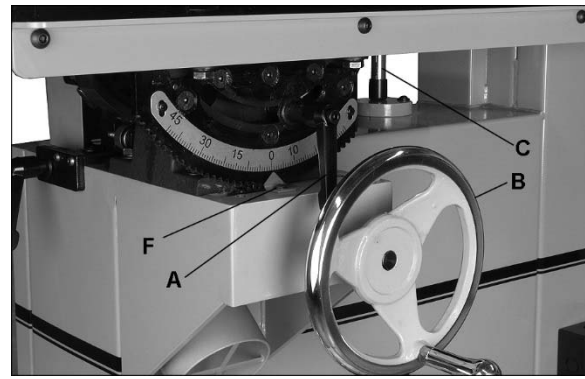
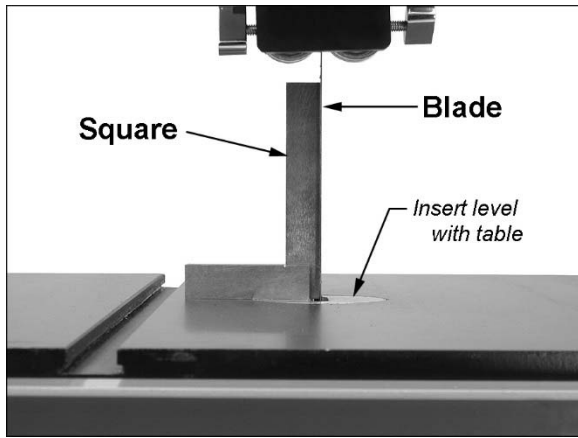

Figure 19: table tilt
Figure 21: setting table stop
Refer to Figures 19 and 20.
Refer to Figures 19 through 21.
3. Loosen lever (A, Figure 19) and tilt table with handwheel (B), until stop bolt (C) rests on circular plate (D).
4. Make sure table insert lies flush with table surface. Place a square on table and against blade to check that table is 90° to blade. See Figure 21. NOTE: Do not push square into blade.
5. If table and blade are not square, use a 17mm wrench to loosen lock nut (E) then rotate stop bolt. Turn stop bolt as needed until there is no longer light showing between square and blade.
6. Tighten lock nut (E) to secure table stop position.
7. Tighten lever (A).
8. Check that scale pointer (F, Figure 19) is at zero. If necessary, loosen screw on pointer and shift pointer to zero. Then retighten screw.